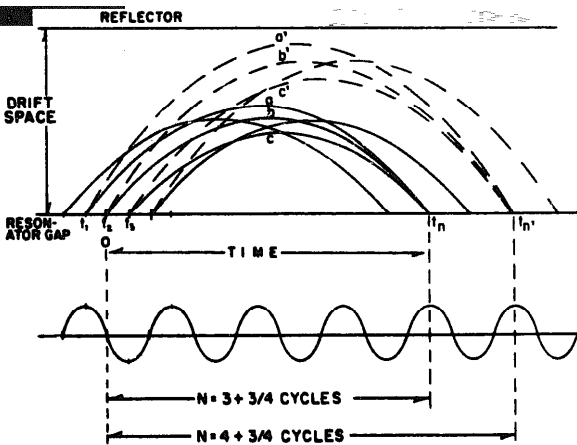
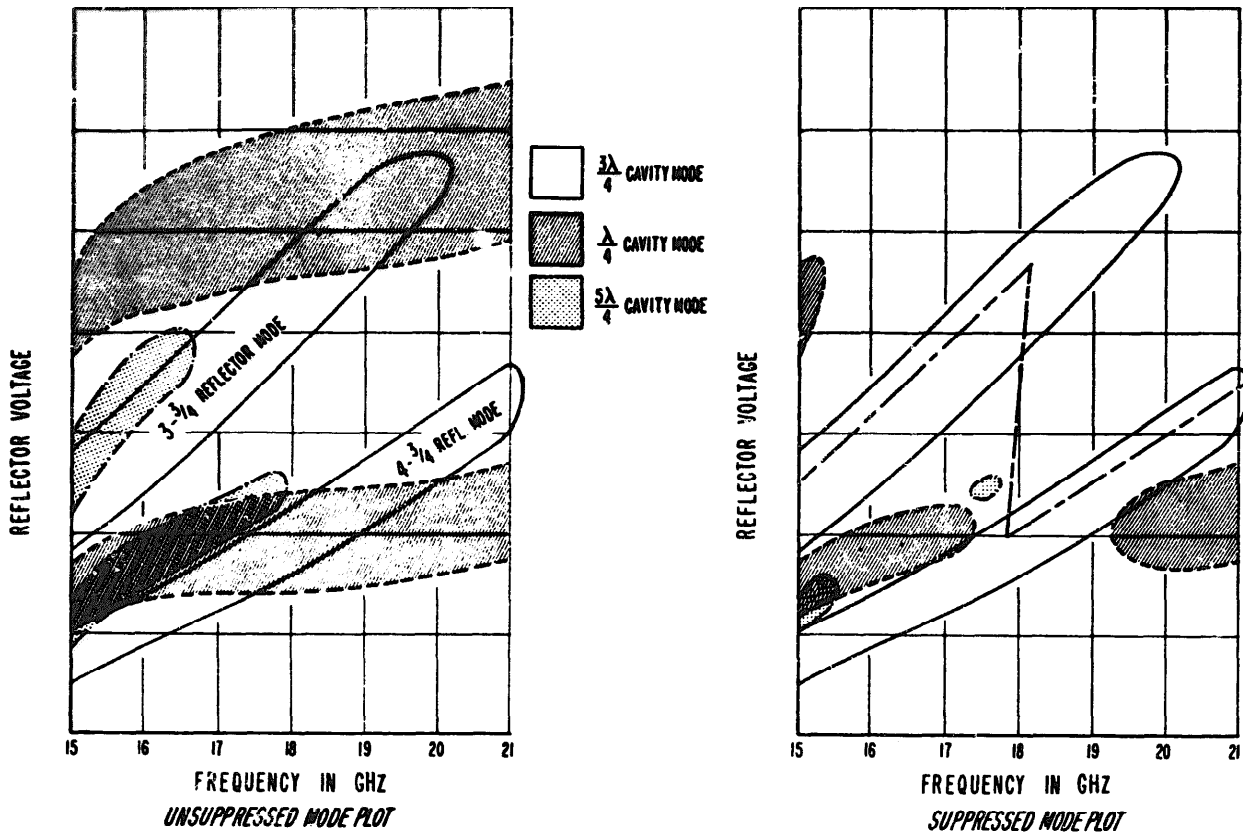

Figure 4-12. Bunching of Electrons in a Reflex Klystron
Figure 4-13. Graph Showing Klystron Oscillation Modes
4-42. This bunching of electrons is illustrated in Figure 4-12, which shows the transit time relationship of electrons while in the drift space between the resonator grids and the reflector. Consider an electron (a) leaving the grids at time  $t_1$ . The voltage of the RF signal on the grids is such that the electron receives energy and is accelerated into the drift space. It arrives back at the grids at time  $t_n$ . An electron (b) leaving at time  $t_2$  receives no acceleration because the RF signal is now at zero volts. Thus electron (b) does not travel as far into the drift space and arrives back at the grids at the same time as electron (a). Electron (c) leaving at time  $t_3$  is decelerated since the RF signal has reversed voltage polarity since time  $t_1$ . Electron (c) travels a shorter distance into the drift space and arrives back at the grids at the same time as electrons (a) and (b).
4-44. The time that the electrons spend in the drift space is adjusted by changing the reflector voltage. As reflector voltage is increased in the negative direction, electrons a, b, and c spend less time in the drift space. As reflector voltage is decreased electrons a, b, and c (Figure 4-12) travel farther into the drift space and take a longer time ( $t_{n1}$ ) to return to the grids. At the low end of the frequency band (15 to 18 GHz), the reflector voltage is adjusted so that the number of oscillations (N) that occur at the grid while the electrons are in the drift space is equal to 3-3/4 cycles. At the high end of the frequency band (18 to 21 GHz), the reflector voltage is adjusted so that the number of oscillations equals 4-3/4 cycles. When the oscillator is operating with 3-3/4 cycles drift time it is known as operating in the 3-3/4 reflector mode. A plot of reflector modes with respect to frequency and reflector voltage is given in Figure 4-13.
4-48. As shown in the plot of modes, Figure 4-13, the 5/4 cavity mode interferes with the 3-3/4 reflector mode at the lower end of the band. This mode is suppressed by means of a tapered load adjoining the cavity. Since klystrons possess a natural tendency to oscillate on the 1/4 cavity mode, and since this mode is undesirable, it is suppressed by a small adjustable, slug inserted into the cavity. Both mode suppressors are shown in Figure 5-4.